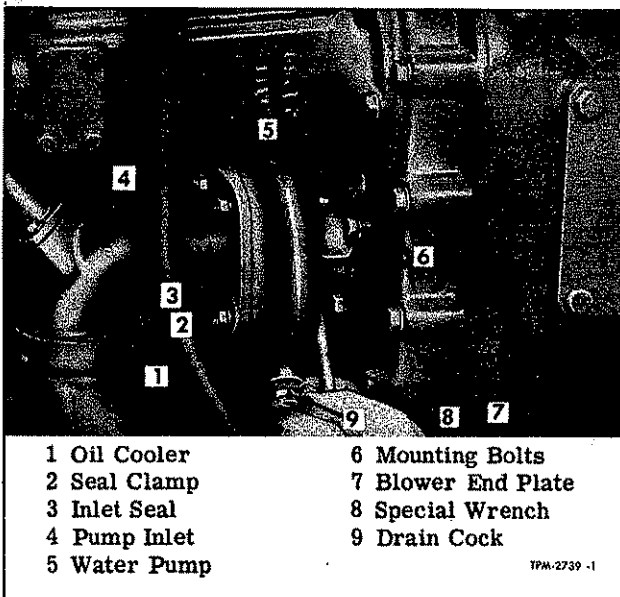

Figure 3—Water Pump Mounting and Use of Special Wrench
- Loosen clamp (9); then slip inlet seal (5) down on oil cooler neck.
- Remove two cap screws (8) and loosen flange (1) which holds pump outlet to cylinder block. Move flange and packing towards pump body.
- Remove cap screws (7) which holds pump to blower. The inner cap screw can be removed by using a special wrench as shown in figure 3.